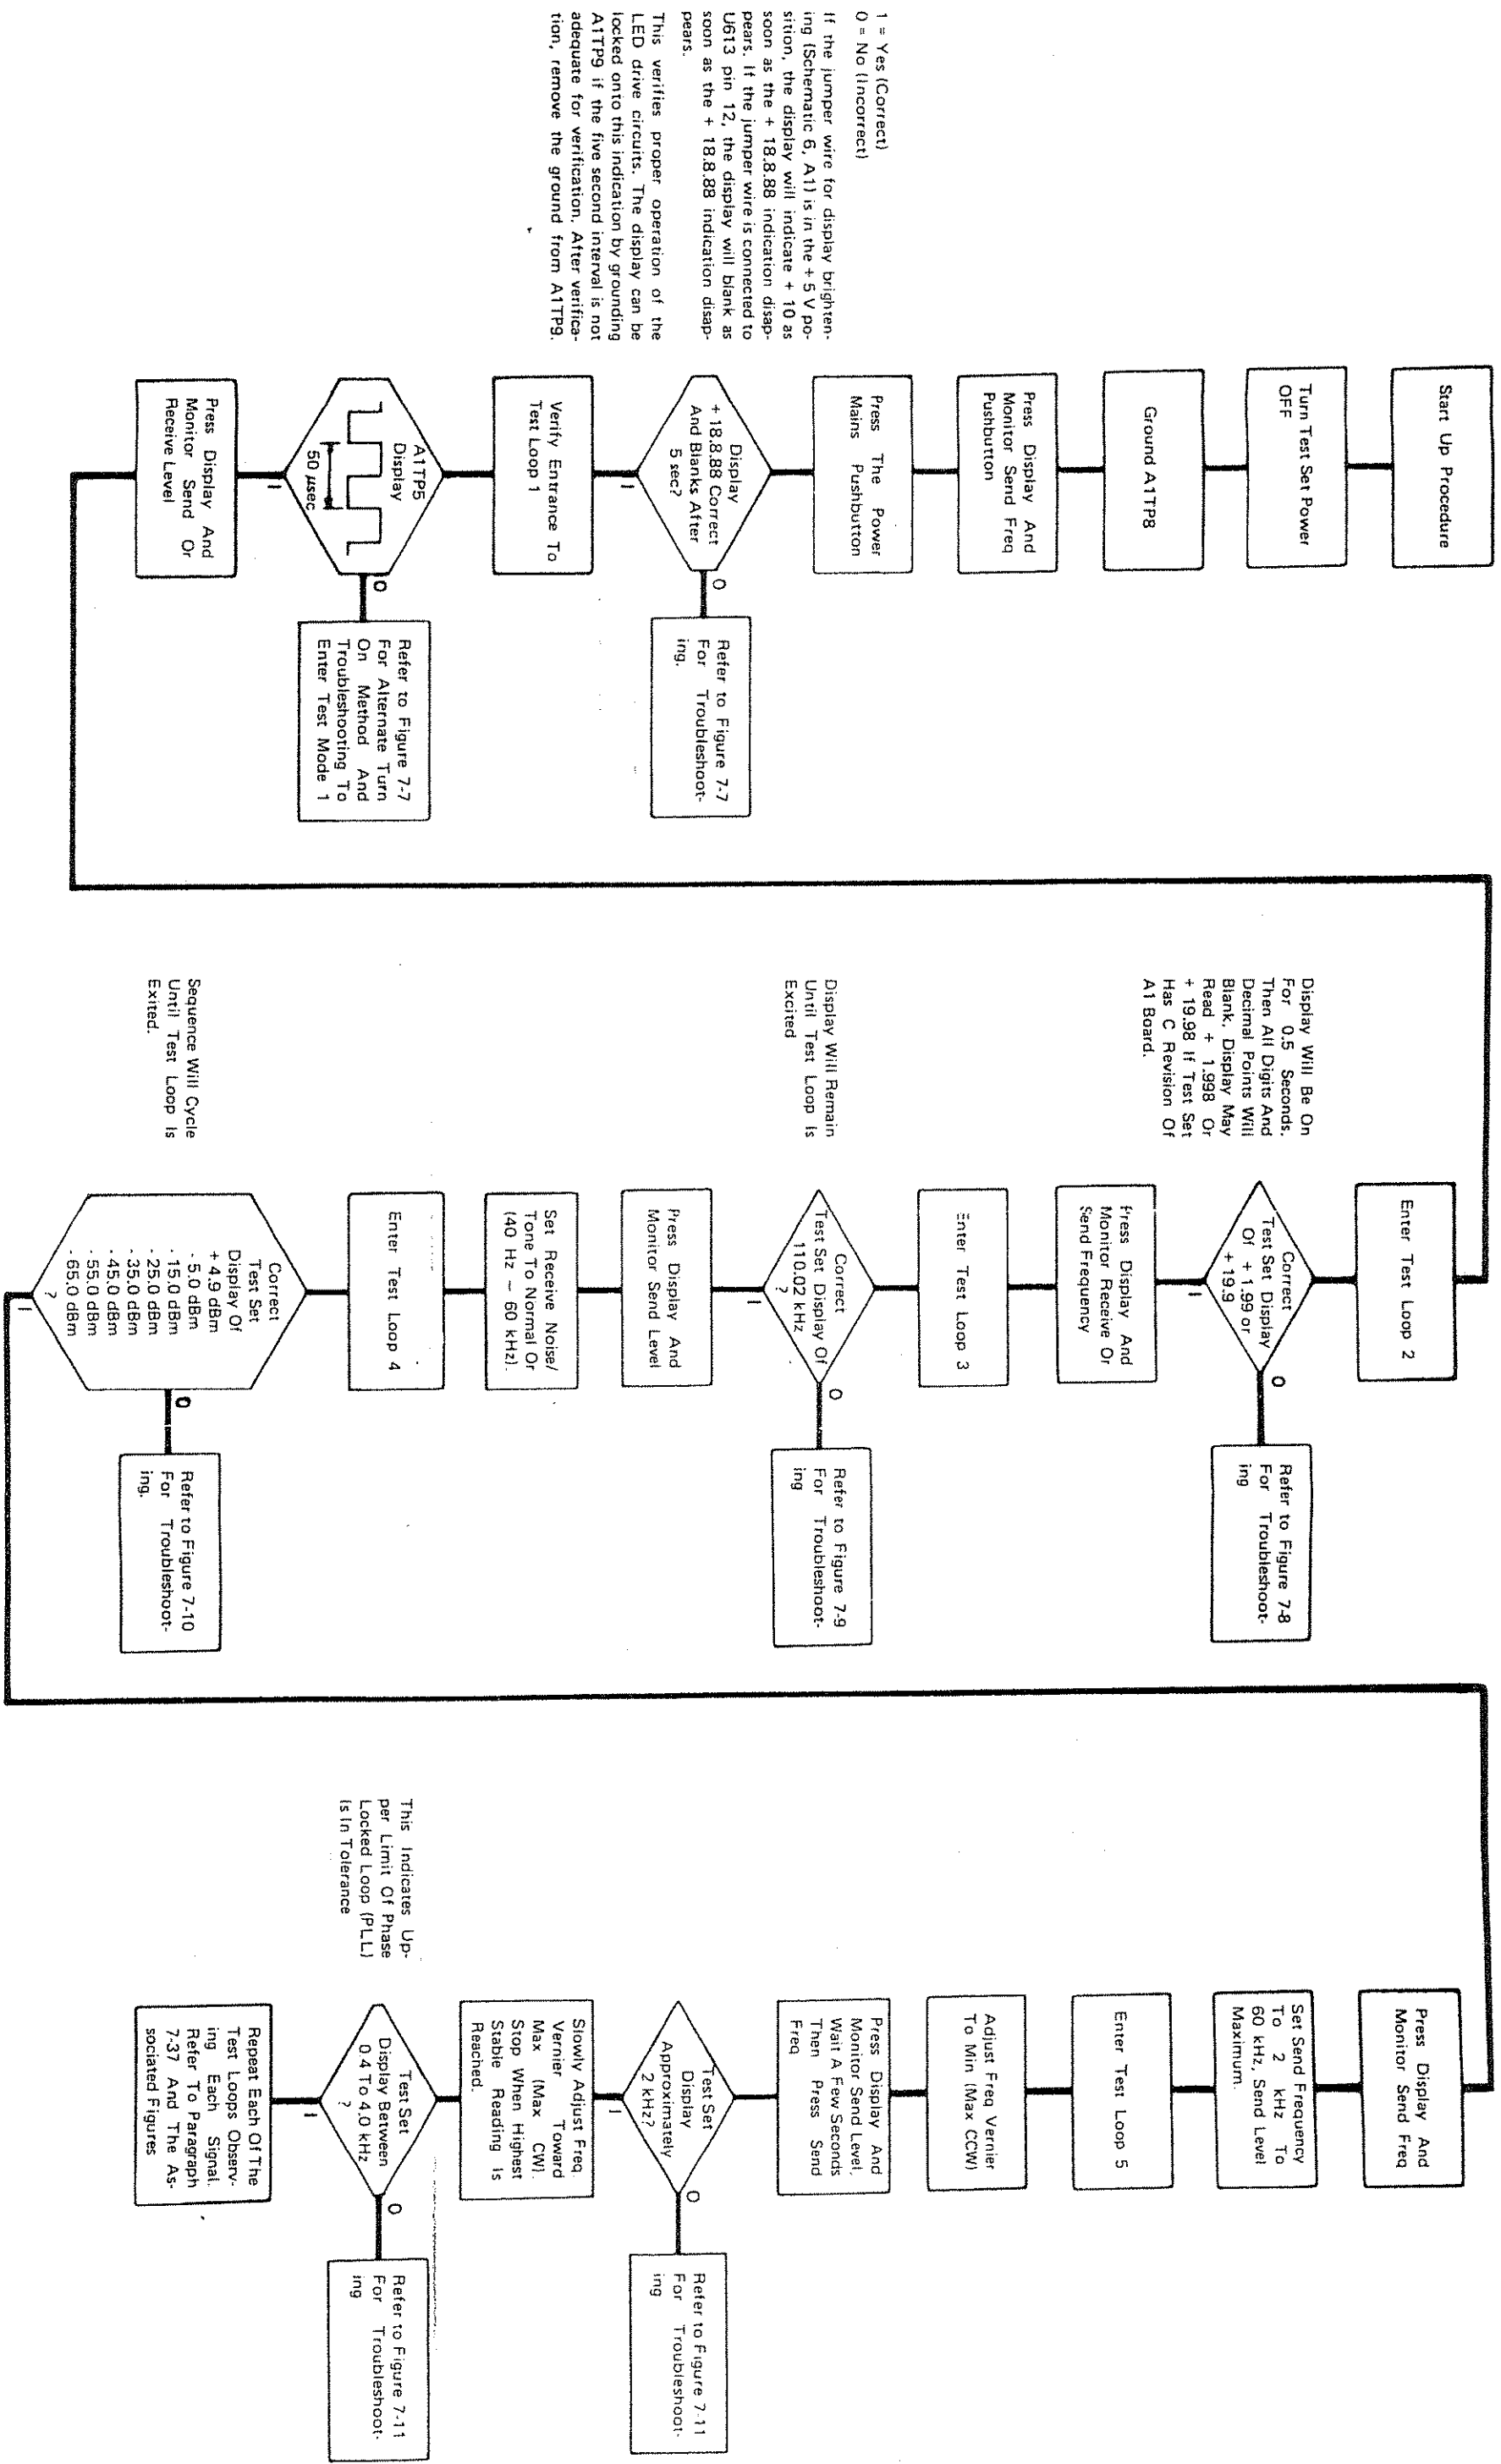

Figure 7-5. Simplified Test Loop Flow Chart. 7-11/7-12
7-37. Step-by-Step Procedure. The following paragraphs and associated flow charts provide the step-by-step procedure for each of the Test Loops. Reference Figures 7-7 through 7-11 for flow charts of each loop test, explanations, tests to be performed, timing diagrams of signals to be tested, and possible solutions to malfunctions. Tables 7-8, 7-9, and 7-10 contain definitions for all the mnemonics used in the Logic Section. To enter the first Test Loop, perform the start-up procedure as shown in Figure 7-5, then proceed as indicated.
d. Follow the test procedure as shown in Figure 7-5.